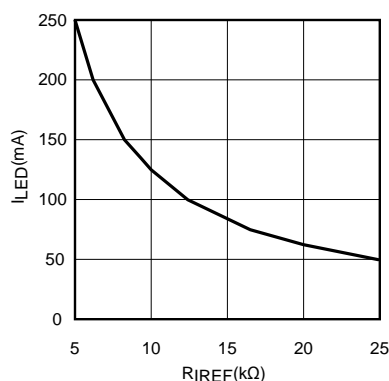

Figure 19.  $I_{LED}$  vs  $R_{IREF}$
The current of an LED string ( $I_{LED}$ ) is programmable from 50 mA to 250 mA by an external resistor  $R_{IREF}$  connecting from the IREF pin to the ground. The relationship between  $I_{LED}$  and  $R_{IREF}$  is shown in Figure 19. The two channels of the current regulator can work in parallel for only one LED string by connecting the IOUT1 and IOUT2 pins together to provide an LED current of up to 500 mA. In this case, the DIM1 and DIM2 pins should also be connected together.
**RRT and RIREF:** The resistors RRT and RIREF set the switching frequency fSW of the boost converter and the LED current ILED respectively. From Figure 16, if fSW is 300 kHz, RRT is selected to be 499 kΩ. From Figure 19, if ILED is 250 mA, RIREF is selected to be 4.99 kΩ.